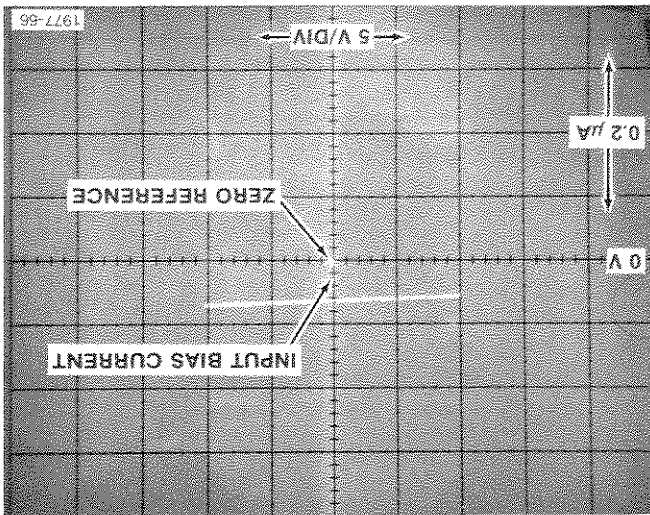

Fig. G-3. Typical display of input bias current.
- b. Check that the vertical deflection of the trace is  $\leq 2.5$  divisions from vertical center at the horizontal center (see Fig. G-3). Reset the VERT UNITS/DIV switch if better resolution is needed.